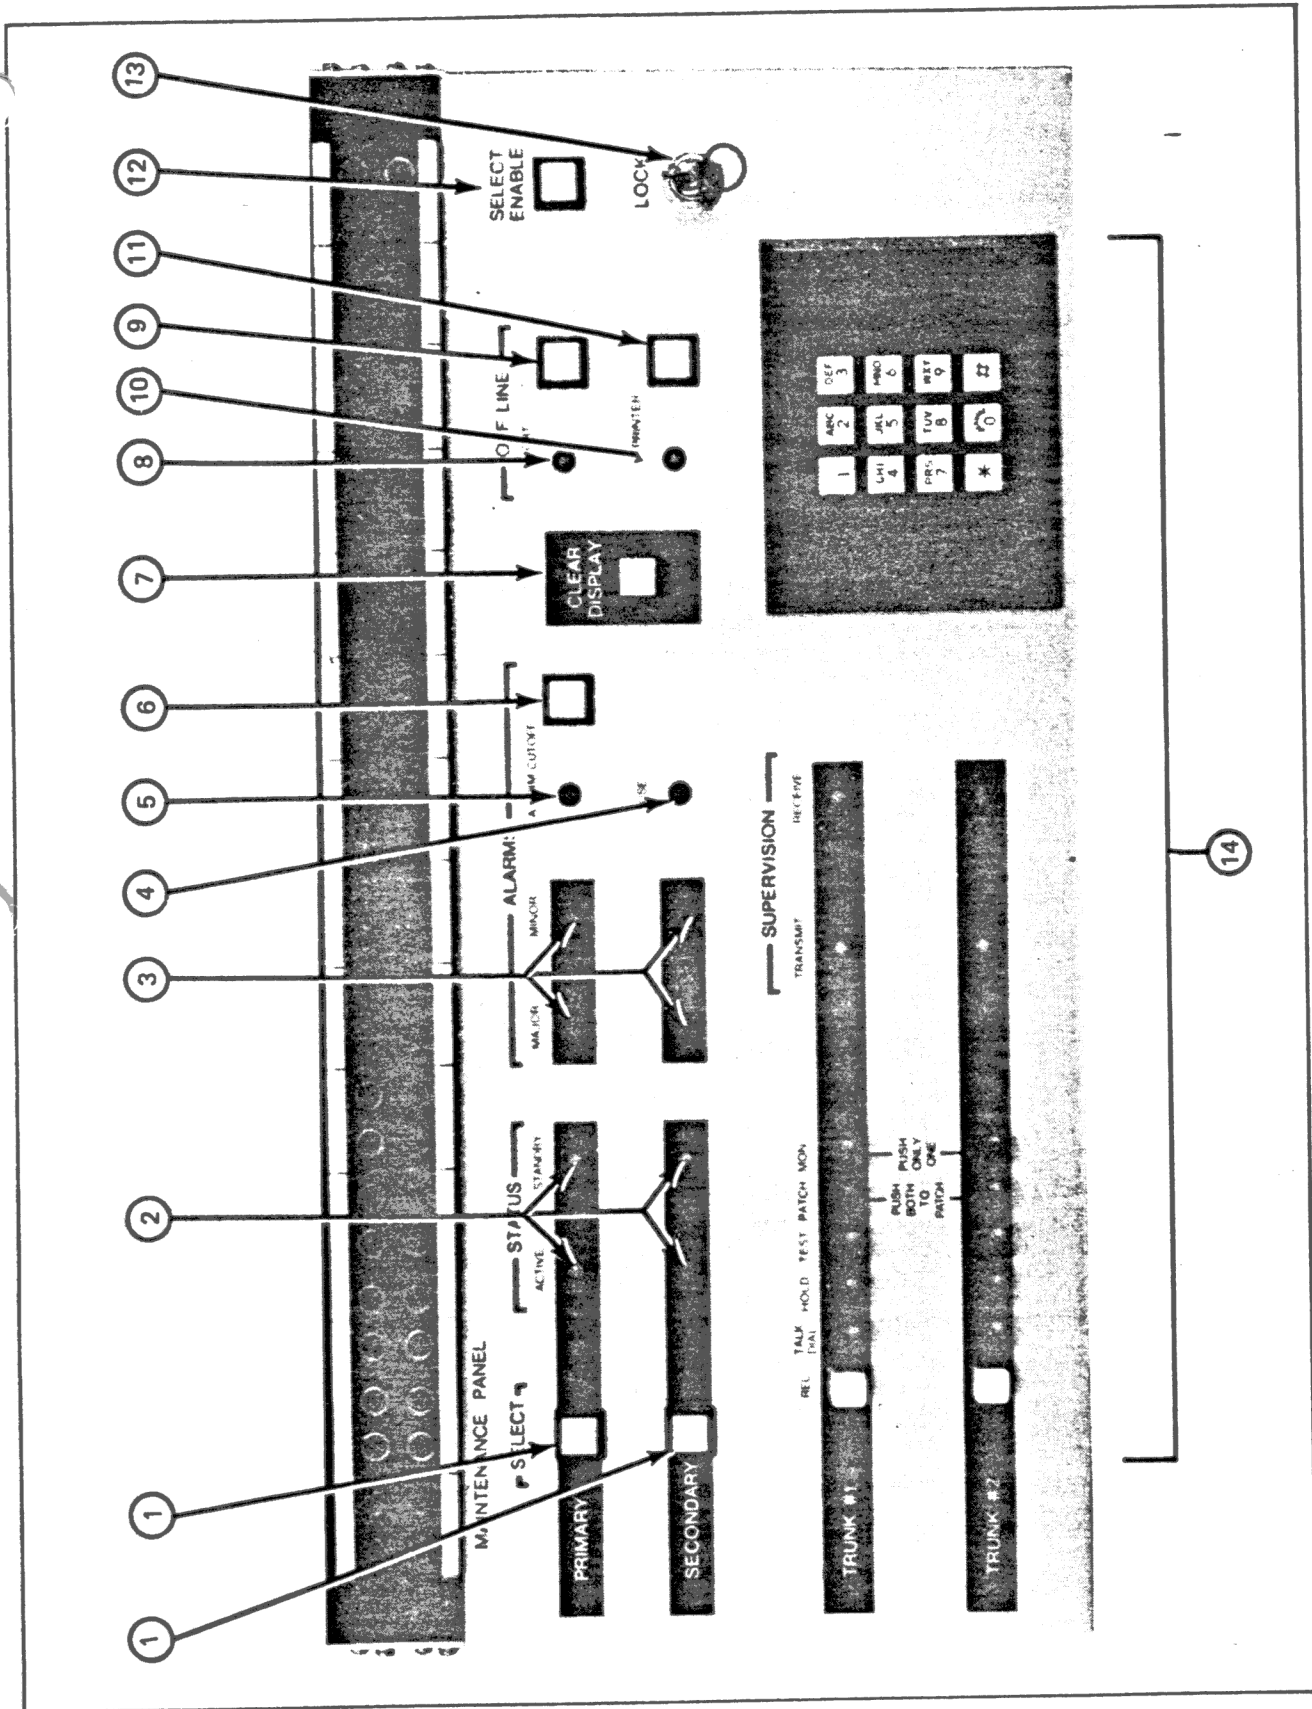

Figure 2. Maintenance Panel Controls and Indicators
2.02 The maintenance panel contains indicators that display the operational status of the ITS System and contain the controls required for trunk maintenance, system switching, and alarm control. Controls and indicators of the maintenance panel are illustrated in Figure 2 and explained in Table 1.